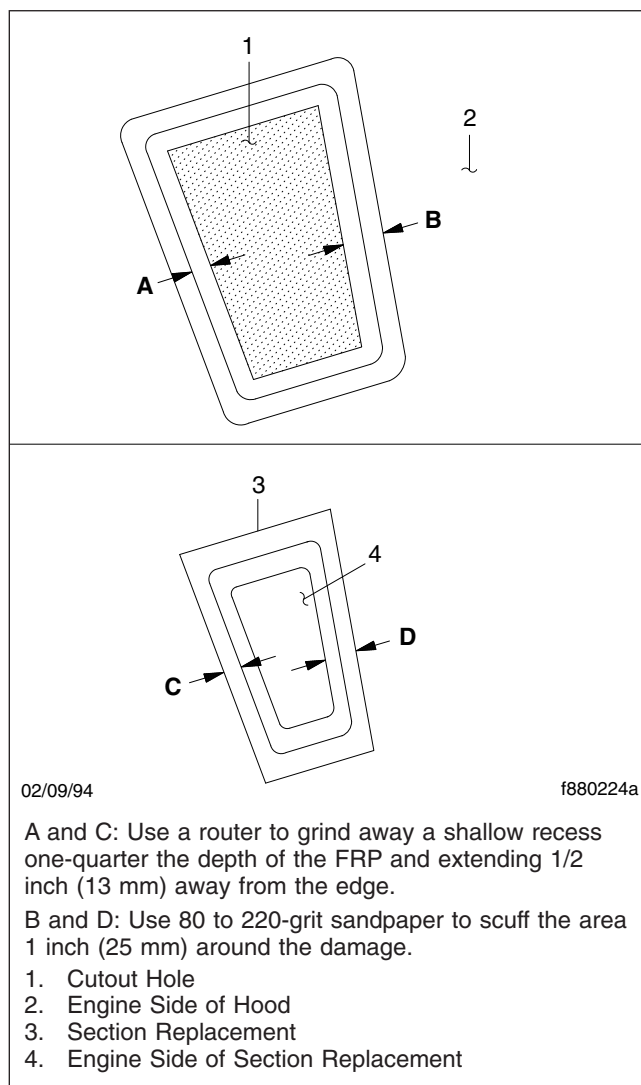

Fig. 6, Preparing the Section Replacement and Hood Cutout on the Unexposed Side
7. On the engine side of the hood, use a router bit (on a grinder or drill) to grind away a shallow recess one-quarter the depth of the laminate and extending 1/2 inch (13 mm) outward from all sides of the cutout area. See Fig. 6, Ref. A.
Also, grind 1/2 inch (13 mm) inward from all edges on the engine side of the section replacement. See Fig. 6, Ref. C.
8. Use 80 to 220-grit sandpaper to scuff an area at least 1 inch (25 mm) out from all sides of the cutout area. See Fig. 6, Ref. B.
Also, scuff at least 1 inch (25 mm) in from all sides of the section replacement. See Fig. 6, Ref. D.